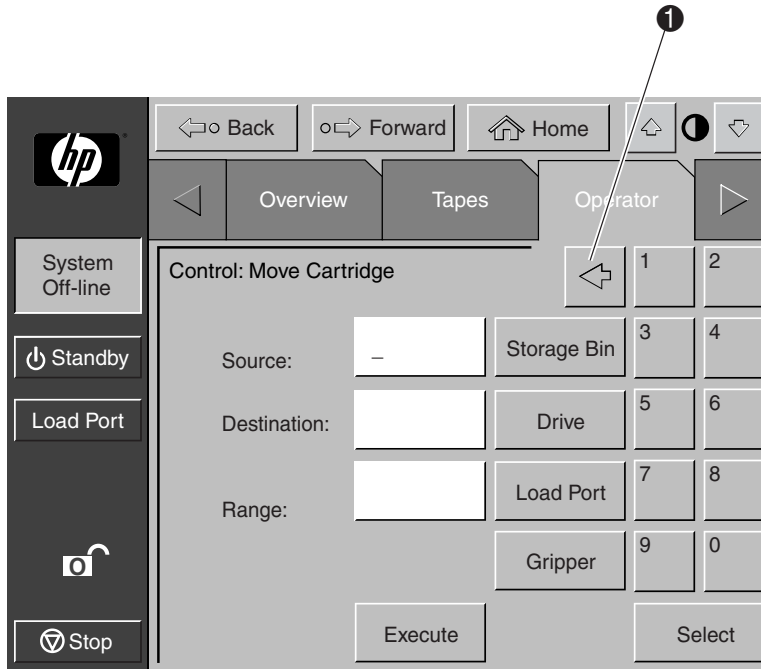

Figure 4-7: Control: Move Cartridge screen
1. On the Operator screen, press the **Move Cartridge** button. The control panel displays the Control: Move Cartridge screen, with the Source input field active (see Figure 4-7).
NOTE: Use the **Backspace** button to erase a partial entry character-by-character (1 Figure 4-7).